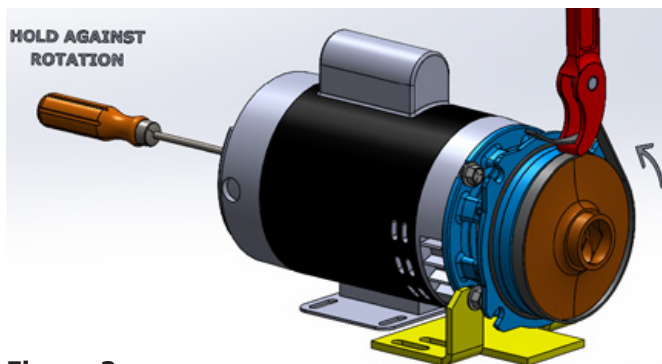

Figure 2
8. While still holding screwdriver against rotation, use a strap wrench around the impeller outer diameter to unscrew the impeller counterclockwise from the motor shaft. (Figure 2)